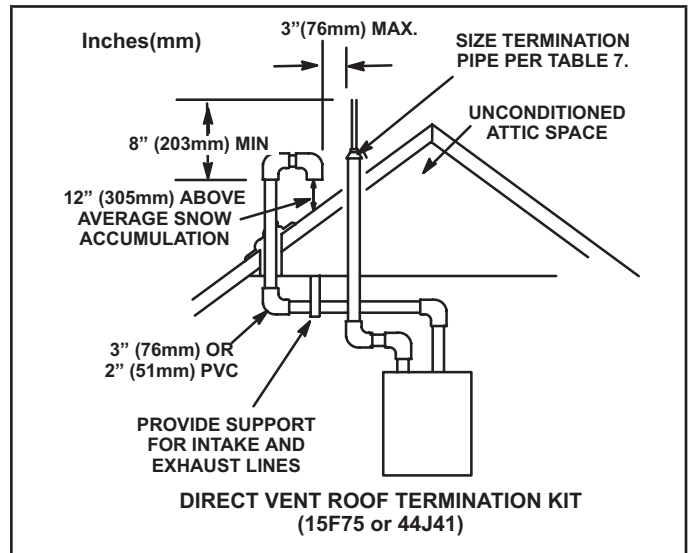
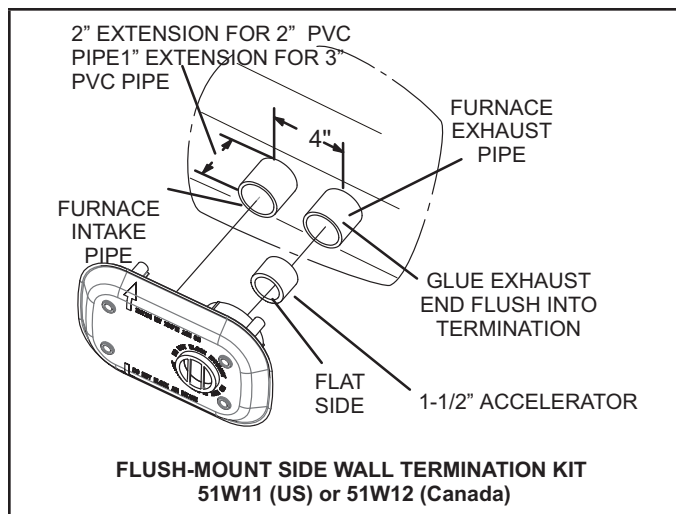

FIGURE 27
FIGURE 32
Intake and exhaust pipes may be routed either horizontally through an outside wall or vertically through the roof. In attic or closet installations, vertical termination through the roof is preferred. FIGURE 27 through FIGURE 32 shows typical terminations.
- 3 - On roof terminations, the intake piping should terminate straight down using two 90° elbows (See FIGURE 27).